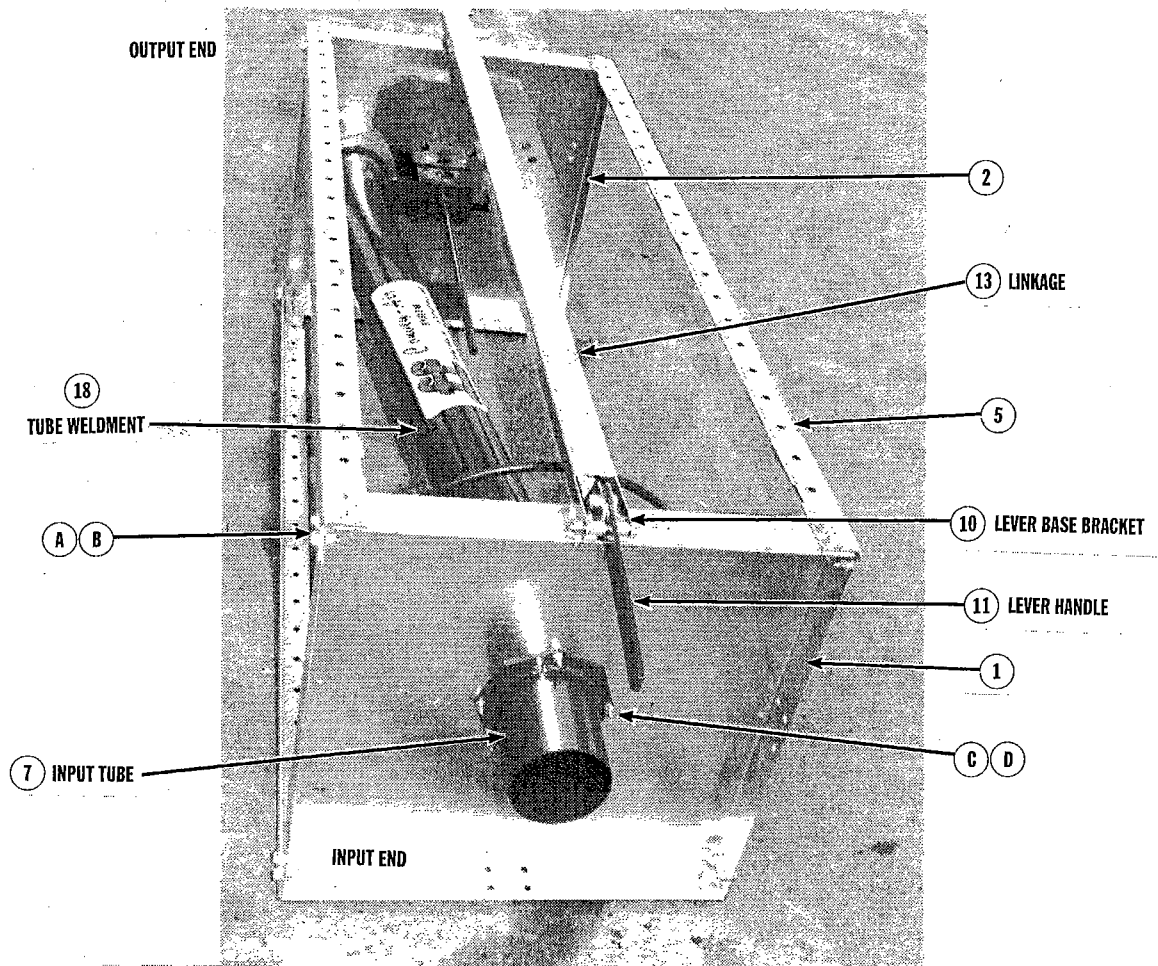

Figure 1
1. Assemble bases (items 1 and 2) to the four frame legs (item 5) using 3/8 x 1" hex-flange whiz-lock bolts and nuts (hardware items A and B). Ensure bases are square to legs before tightening. See fig. 1.
2. Install input tube weldment (item 7) from outside frame using 1/4 x 1" hex-flange whiz-lock bolts and nuts (hardware items C and D). Install bolts from inside frame. See fig. 1.